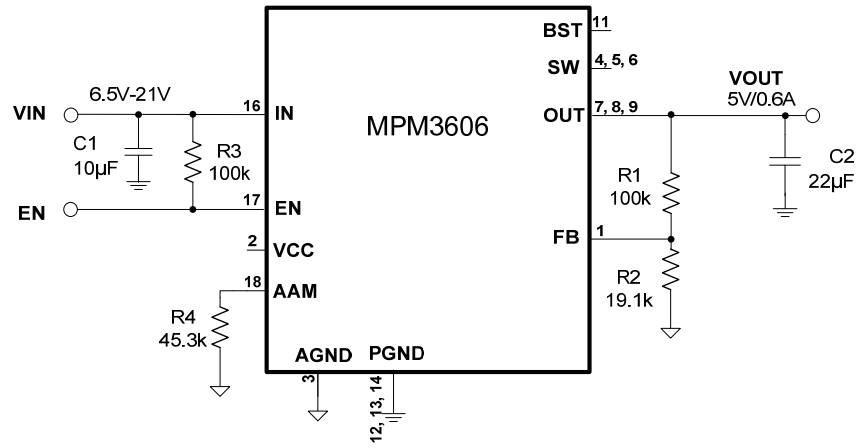

Figure 8: $V_{OUT}=5V$, $I_{OUT}=0.6A$
10) The recommended layout is based on the Figure 8 Typical Application circuit on page 16.
The detailed application schematic is shown in Figure 8 through 13. The typical performance and circuit waveforms have been shown in the Typical Performance Characteristics section. For more device applications, please refer to the related Evaluation Board Datasheets.